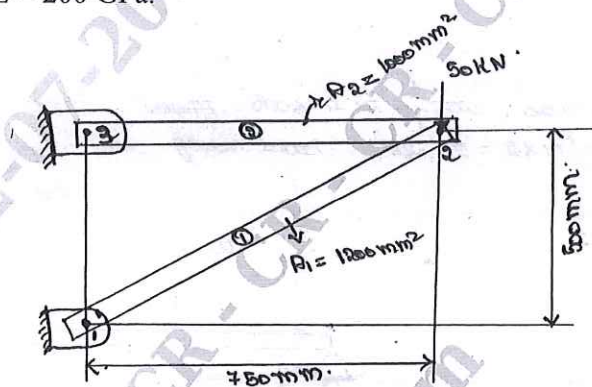

Fig.Q6(b)
b. For the two bar truss shown in Fig.Q6(b), determine the nodal displacements and stress in each member. Take $E = 200 \text{ GPa}$. (10 Marks)